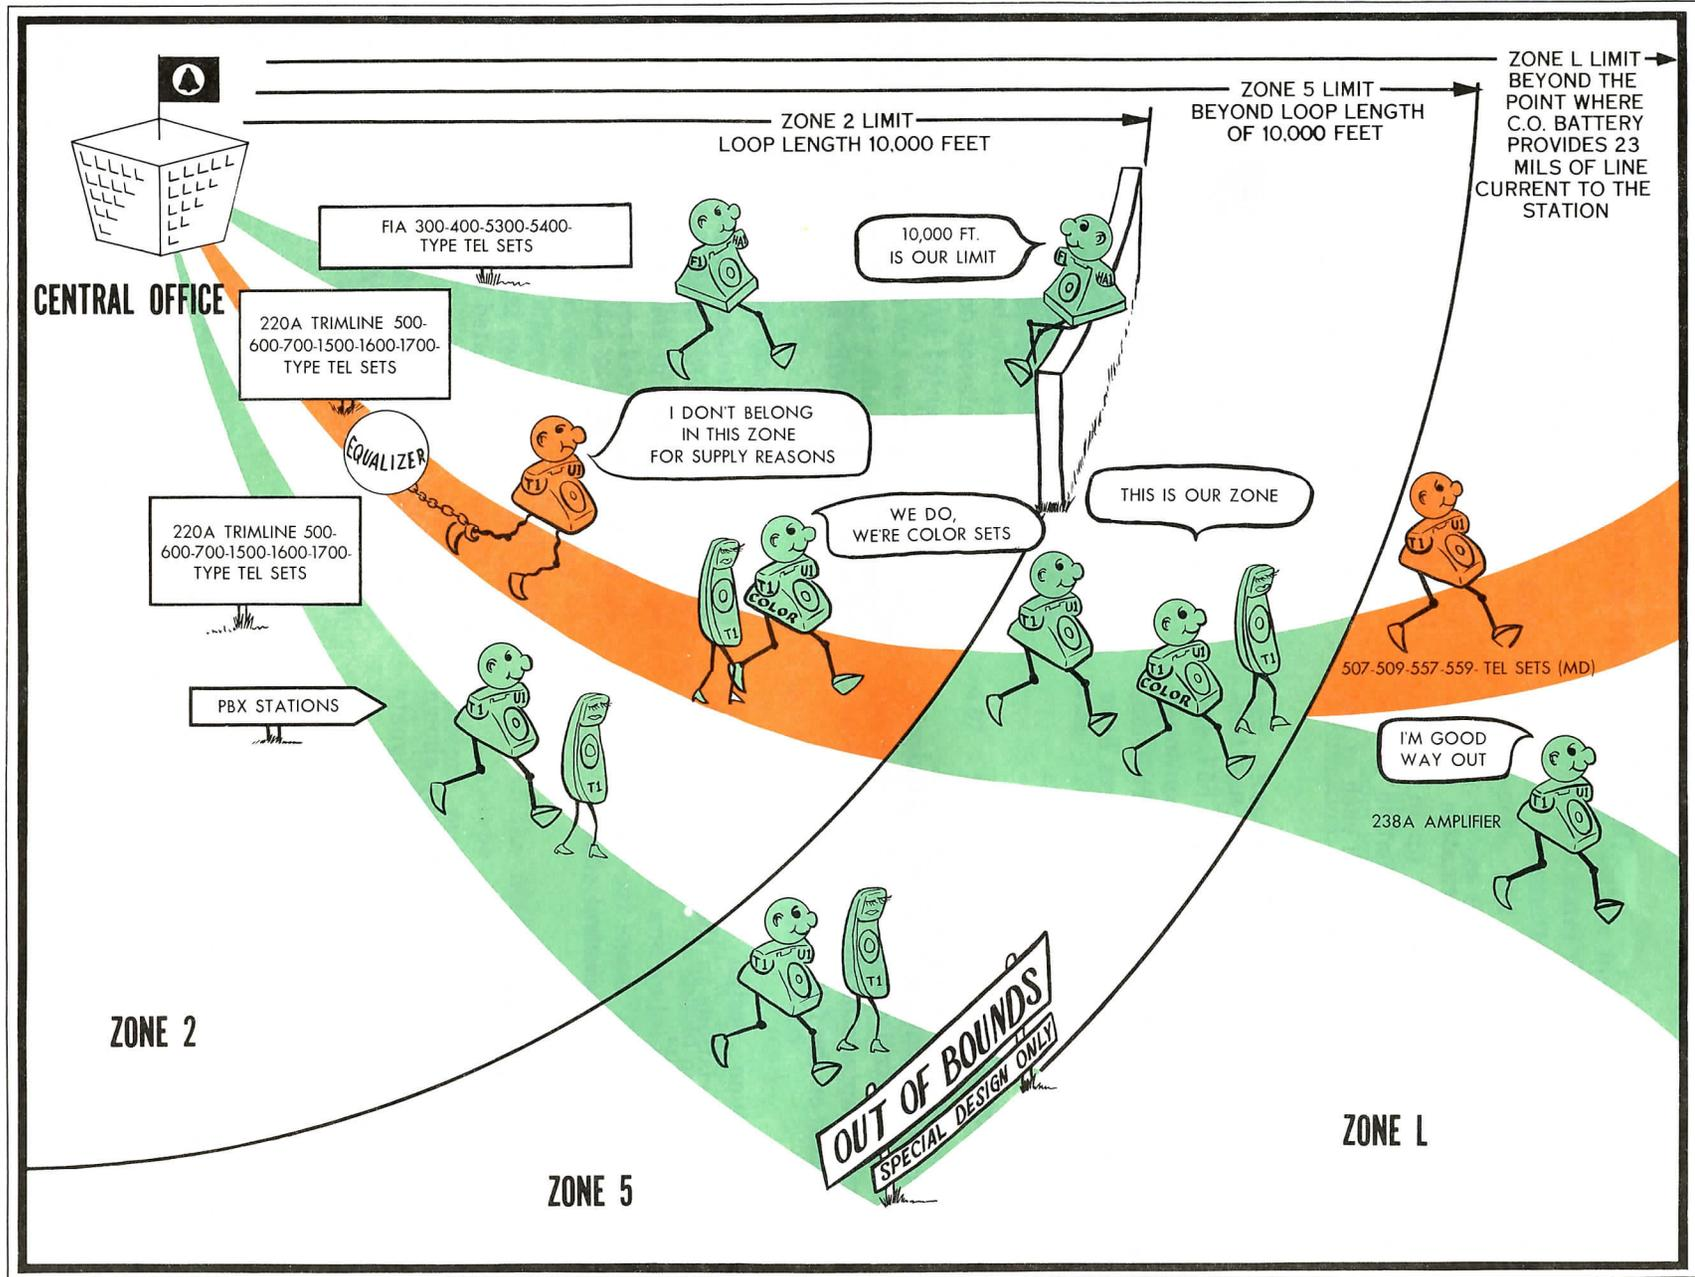

Fig. 1 — Transmission Zoning
3.03 Set performance in the three transmission zones is illustrated by Fig. 1.